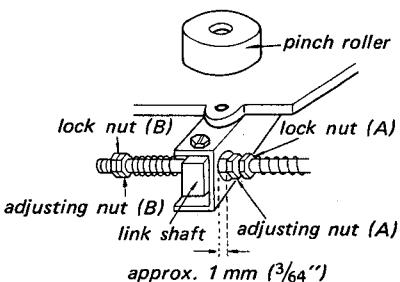

Fig. 3-1-4. Pinch roller pressure adjustment (1)
See Fig. 3-1-4 and 3-1-5. This adjustment should be made after the Reset Spring Housing Adjustment.
- (1) Remove the Reel Panel.
- (2) Set the unit to the play mode.
- (3) Adjust the adjusting nut (A) for 1 mm ( $3/64$ ") clearance between the Link Shaft and the adjusting nut (A). See Fig. 3-1-4.